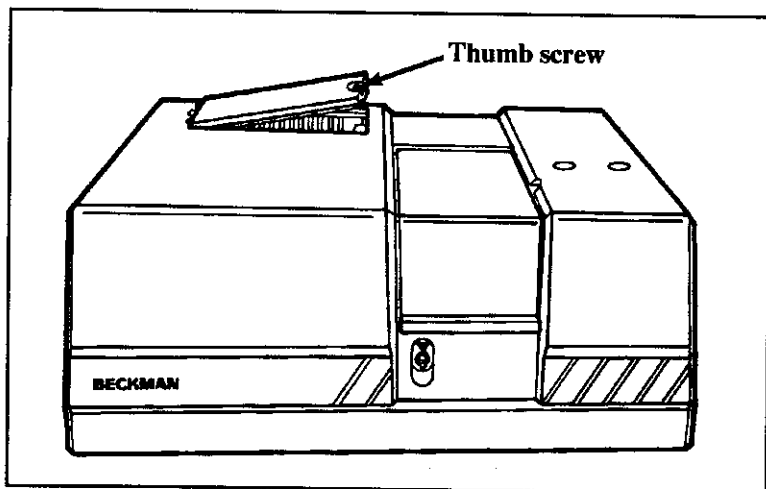

Figure 12-7.
2. Remove the display from the top of the instrument cover. Unscrew the thumb screw which secures the source cover. Open the source cover and remove it. See Figure 12-7.